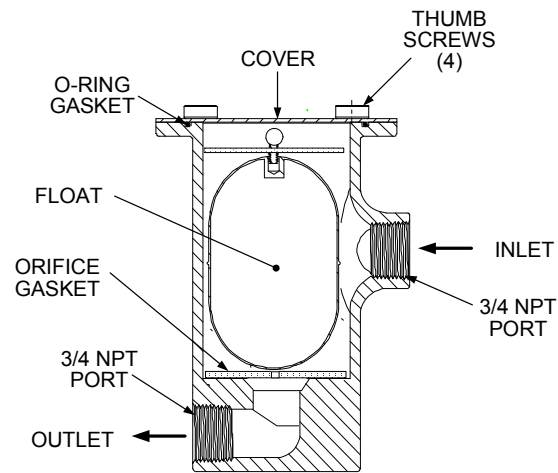

Figure 5. Condensate Trap, Part No. 24060
3. Refer to Figure 5 and loosen the four (4) thumbscrews securing the cover on the condensate trap. Remove the cover.